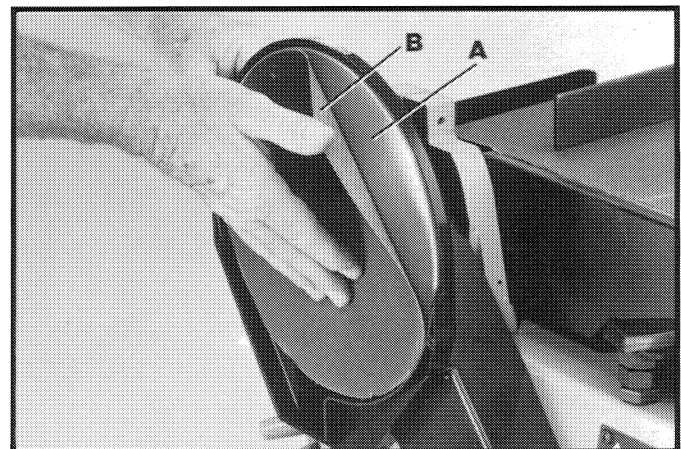

Fig. 12
1. Make certain sanding disc plate (A) Fig. 12, is clean.
2. Peel backing from sanding disc (B) Fig. 12, and press disc firmly into position all around the sanding disc plate (A) as shown.